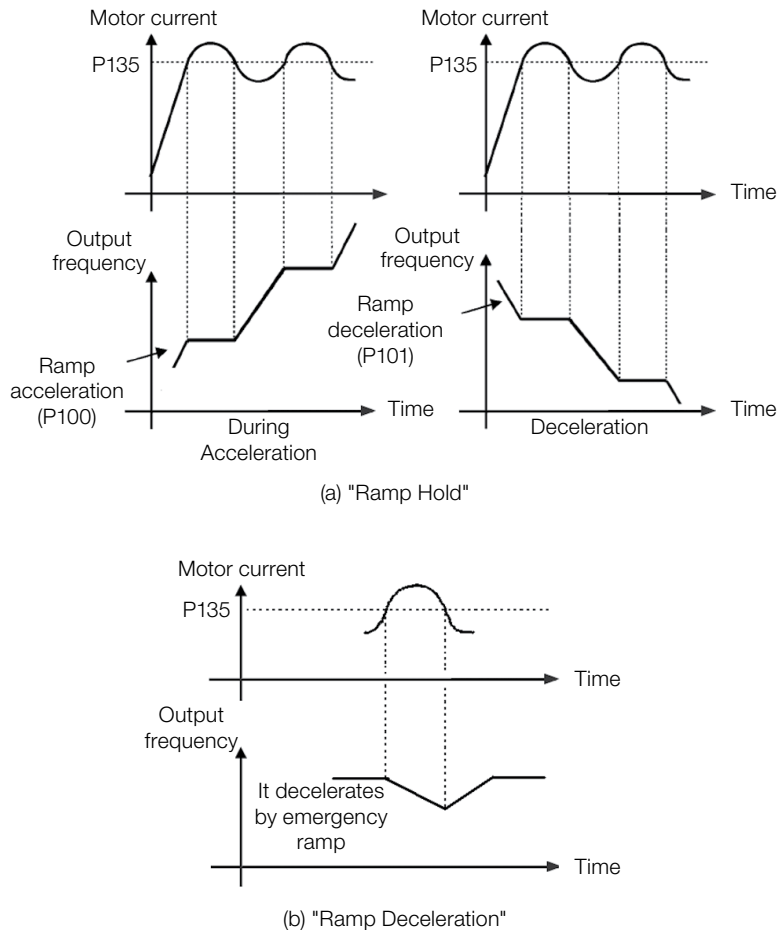

Figure 11.5: (a) and (b) Actuation modes of Current Limitation via P135
- Actuation: if the motor current exceeds the value set in P135 during acceleration or deceleration, the frequency will not be incremented (acceleration) or decremented (deceleration). When the motor current reaches a value below P135 the motor accelerates or decelerates again. Refer to Figure 11.5 on page 11-6;
- Actuation: if the motor current exceeds the value set in P135, a null value is forced for the frequency ramp input forcing the motor deceleration. When the motor current reaches a value below P135 the motor accelerates again. Look at Figure 11.5 on page 11-6.
Current level to activate the current limitation for the Ramp Hold and Decelerate Ramp modes, as per Figure 11.5 on page 11-6 (a) and (b), respectively. In order to disable the current limitation, you must set parameter  $P135 > 1.9 \times I_{nom}$ .